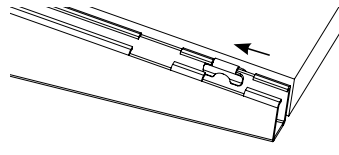

Figure 4
STEP 5: When fully seated, push the shelf towards the wall to secure the clips to the bracket (**Figure 4**). Install the plastic bracket cap on top to lock in place.